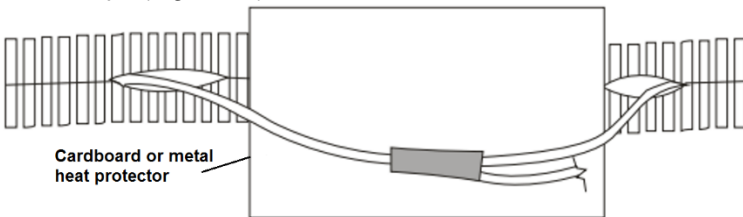

Figure 49 – Splicing into key switched power
- Solder and seal the red wire from the interface to the pink wire with the yellow stripe (Figure 49).